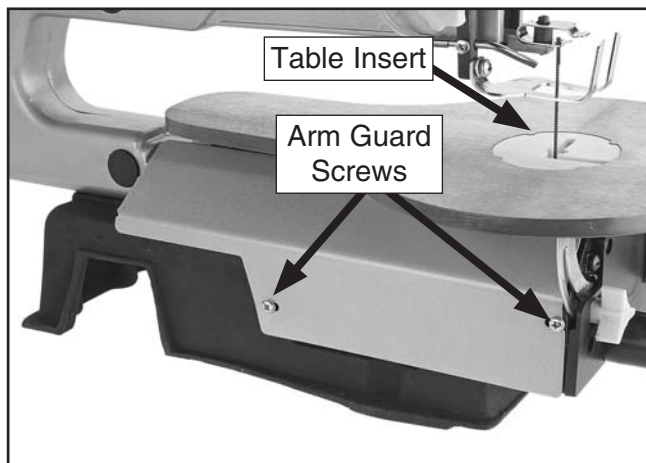

Figure 26. Table insert and arm guard.
4. Remove the table insert, then remove the screws and lower arm guard shown in **Figure 26**.